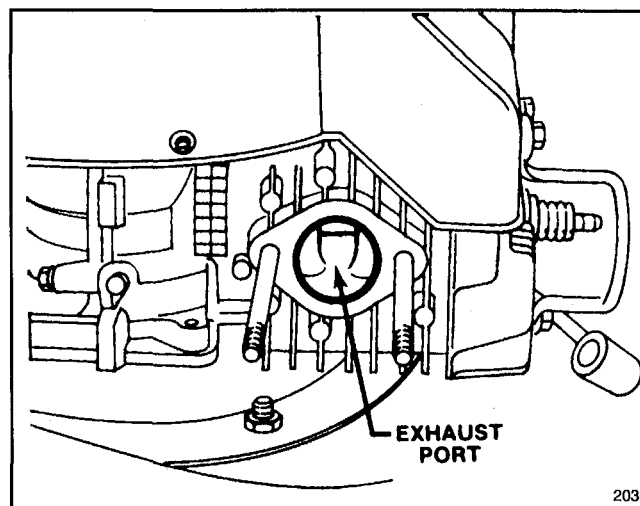

Figure 23
3. Pull wire off spark plug. Slowly pull recoil starter so piston covers exhaust port (Fig. 23).
4. Clean carbon from exhaust port (Fig. 23) with flat, hard wood scraper.